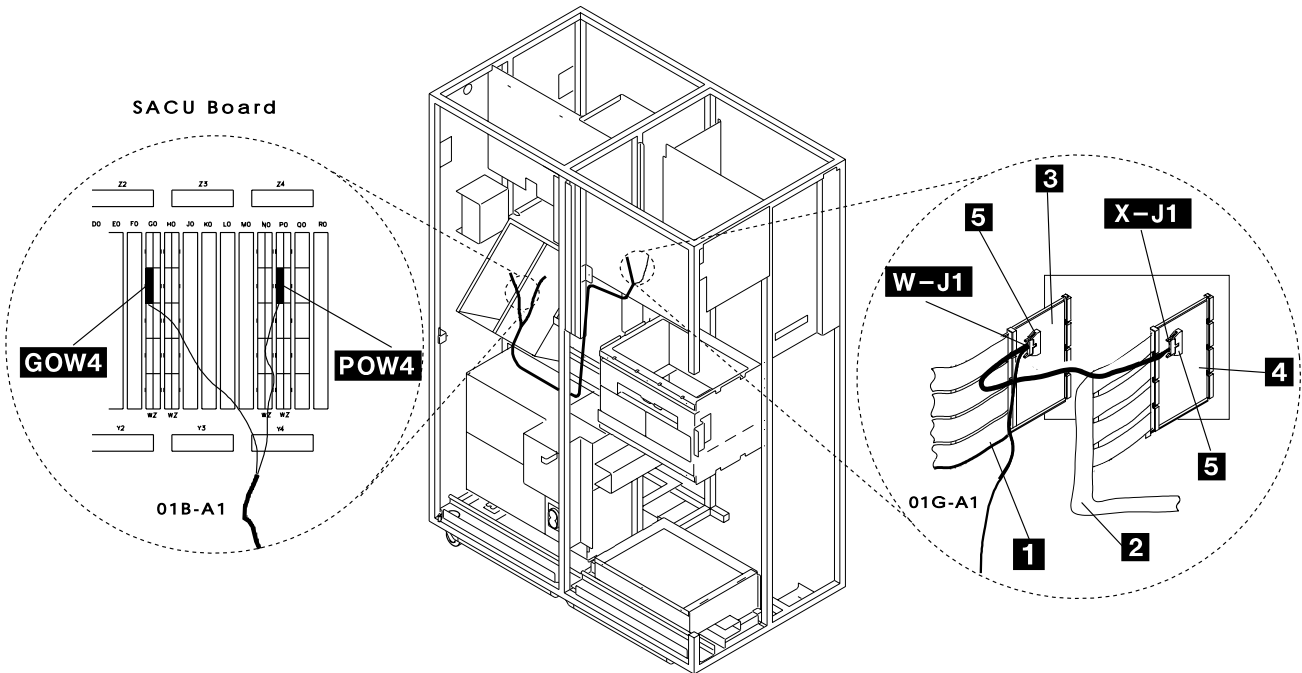
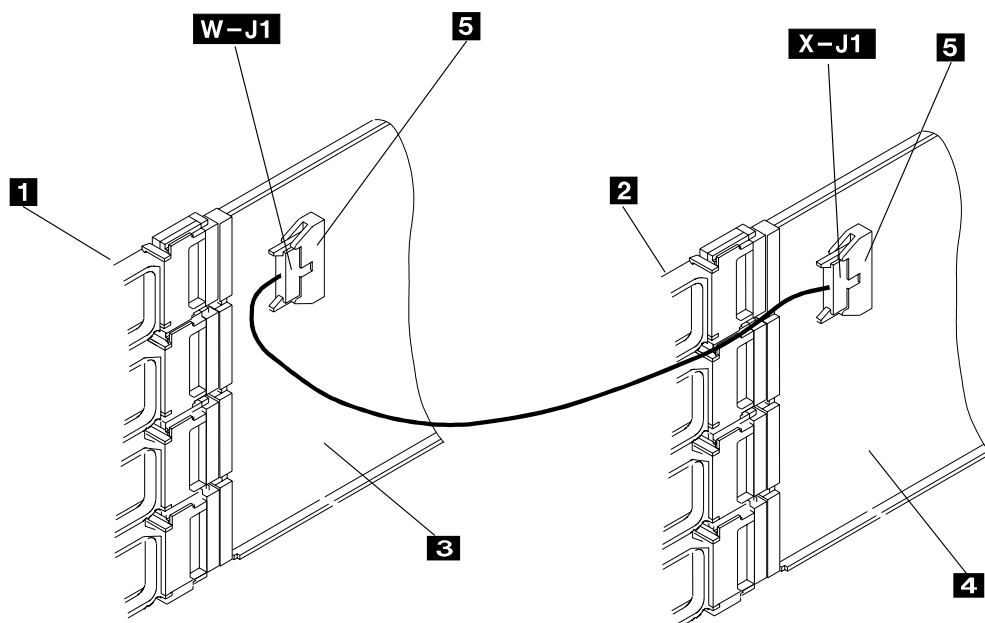

Figure 4-14. Cable 2 (PN 43G3181) Routing on a TSST Board
Figure 4-15. Cable 1 (PN 43G3180) Routing on a TSSB board
- Step 4. \_\_\_\_ Take a DICO card (PN 17G6080) , remove the four interposers plugged on top of the card , and while holding the card in your hand, plug the DICO cable 1 (or 2) lead **X-J1** to connector **5** of the DICO card PN 17G6080 (see Figure 4-14 or Figure 4-15).
- Step 6. \_\_\_\_ Position the DICO card **4** in location 01G-A1 X02, and the DICO card **3** in location 01G-A1 W02 (see Figure 4-14 on page 4-16 when plugging the card into a TSST board or see Figure 4-15 on page 4-16 when plugging the card into a TSSB board).
- Step 8. \_\_\_\_ If you are installing a cable PN 43G3181 (from the TSST board) route this cable to the SACU control board. (refer to Figure 4-14 on page 4-16).